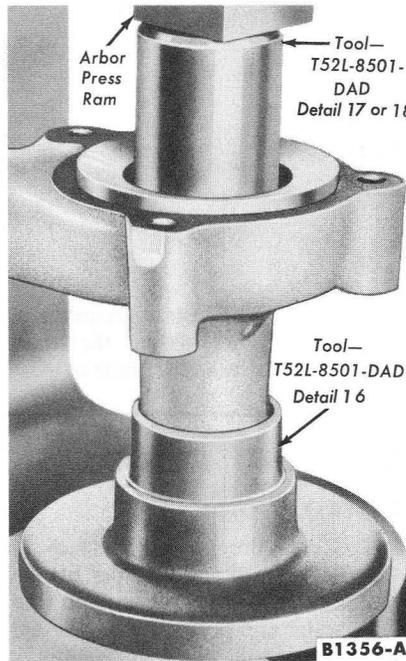

FIG. 7—Seal Installation
4. Apply a light film of water resistant sealer on a new seal and press the seal into the housing (Fig. 7).